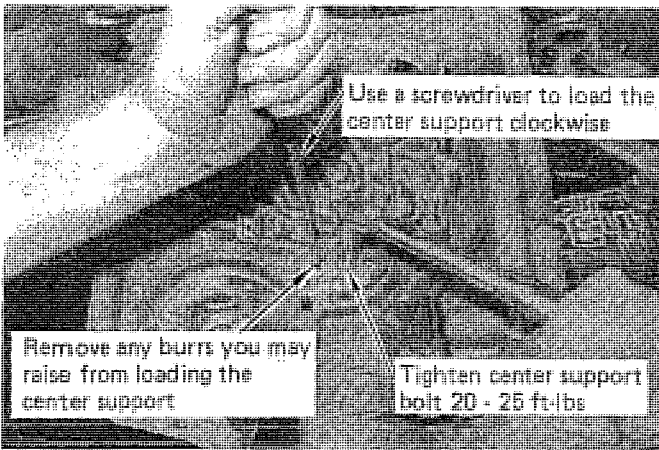

FIGURE 47
STEP 12. When end play is properly adjusted, install center support bolt. Insert a 1/4" diameter screwdriver blade into the oil hole next to the center support. (See Fig. 47) Firmly load the screwdriver to the side and tighten the center support bolt to 20 to 25-ft lbs. Remove the screwdriver. Make sure you have not raised any burrs during this step.